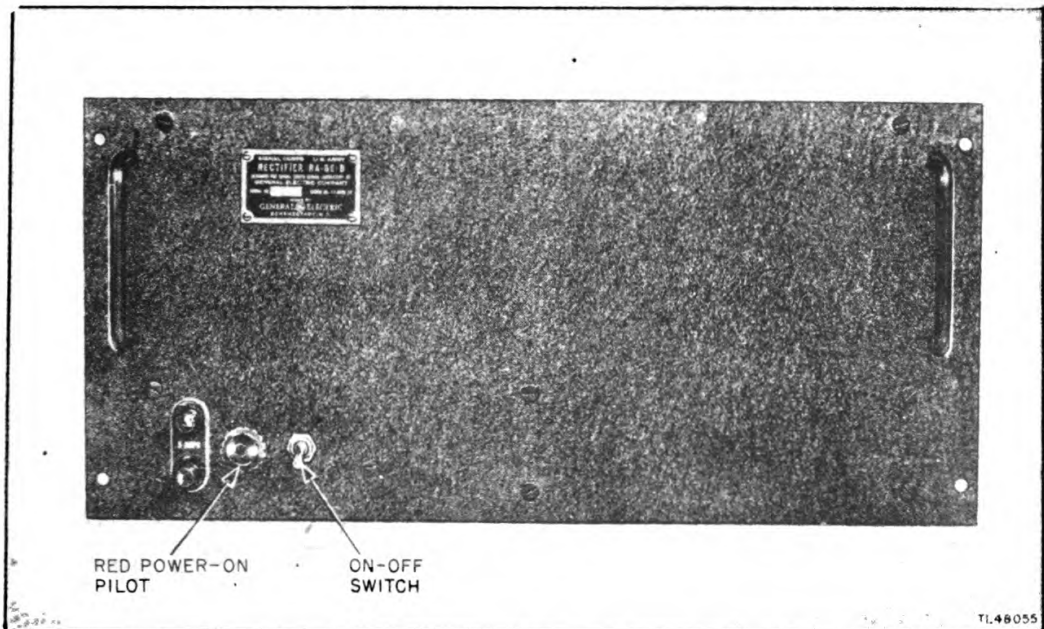

Figure 8. Receiver Rectifier RA-66-B, front view.
11. RECEIVER RECTIFIER RA-66-B (fig. 8).